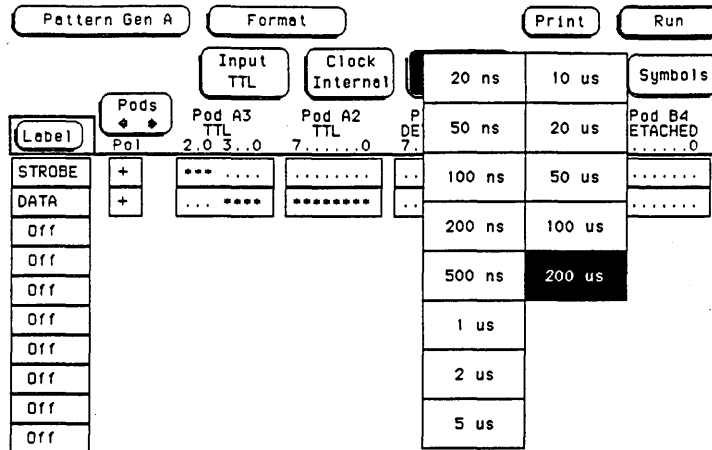

Figure 3-4. Clock Period Screen
- e. Touch **Period** and set Internal clock to 200 μ s as shown in figure 3-4.